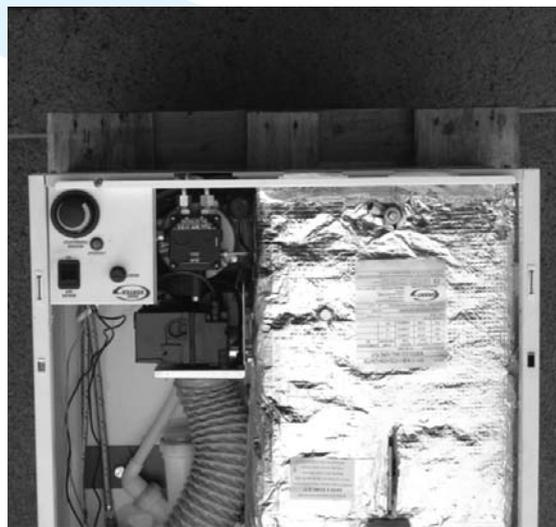

Figure 1: Boiler lower front panel in down position
1. To access the controls, open the lower front panel by pulling it down as shown in Figure 1